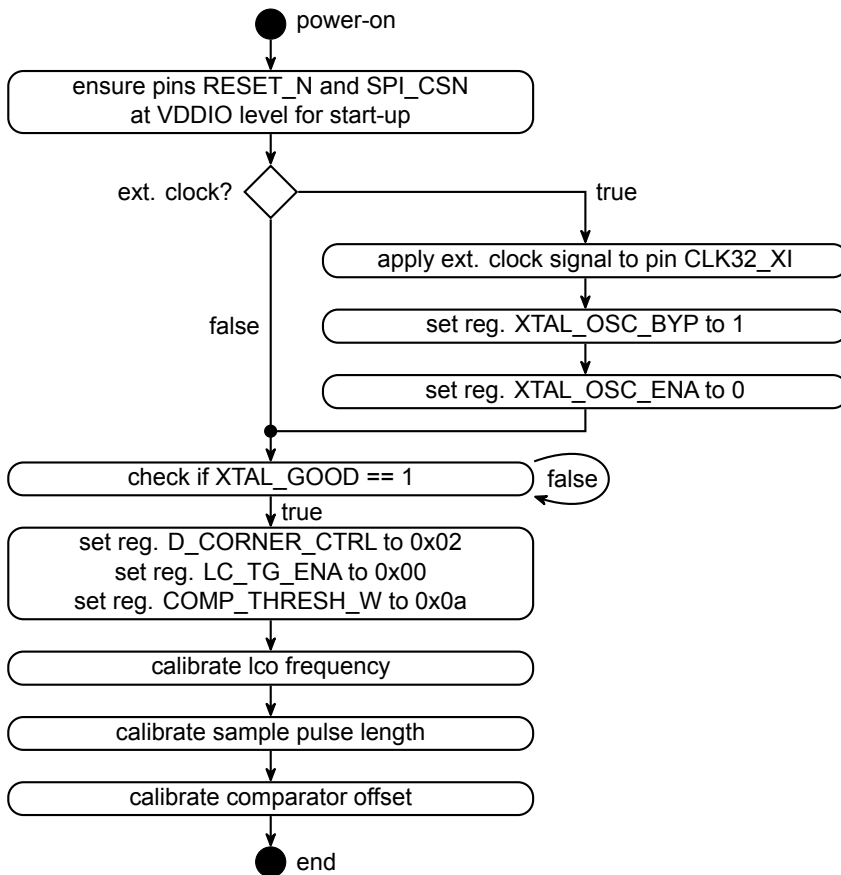

Figure 9: Flow chart of power-up routine.
The flow chart in figure 9 illustrates the power-up routine and necessary steps. The internal clock
- A** It is *mandatory* to execute all built-in calibration methods (cf. section 7.3) to achieve optimum sensitivity and current consumption after power-up. Please ensure the proper order of calibration methods indicated in the power-up routine given in figure 9.
It is required that only one calibration method is selected and executed at one time. Please ensure the proper order of calibration methods according to figure 9.